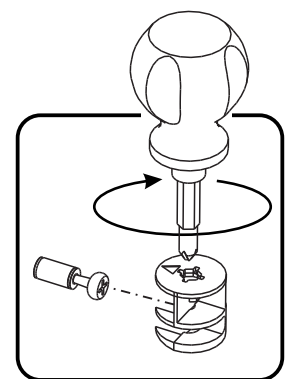

Figure 2
Attach Middle Panels (D) and (E) to Front Rail (I) with Cam Locks. (See Figure 2)